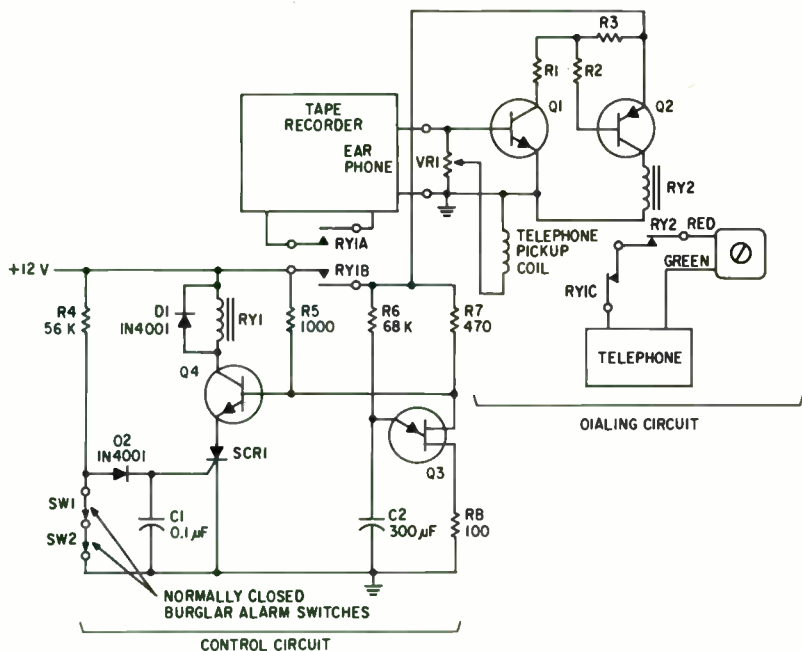

Figure 11-1 Automatic Cassette Dialer Schematic
The automatic cassette dialer (Fig. 11-1) can be broken down into three main parts: (1) the recorder; (2) the control circuitry; and (3) the dialing circuitry.